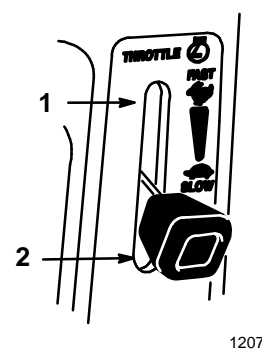

Figure 4
5. Move throttle lever to “FAST” (Fig. 4).
7. After the engine starts, move the choke lever to “OFF” (Fig. 4). If the engine stalls or hesitates, move the choke lever back to “ON” for a few seconds. Then move the throttle lever to desired setting. Repeat this as required.
1. Move the throttle lever to “SLOW” (Fig. 4).